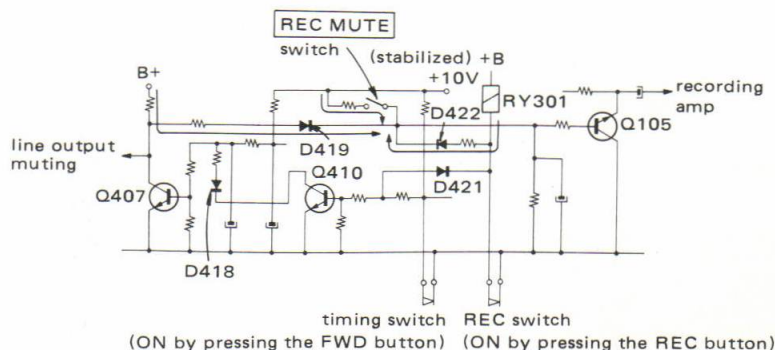

Fig. 5
– Line Output Muting and Recording (See Fig. 5) –